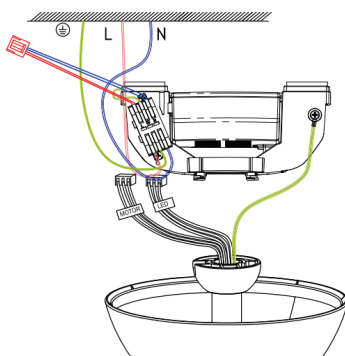

Fig. 6
(Refer to Fig 6.).
- Screw “EARTH” cable from motor to cavity on the mounting bracket. Please refer to Fig 6.